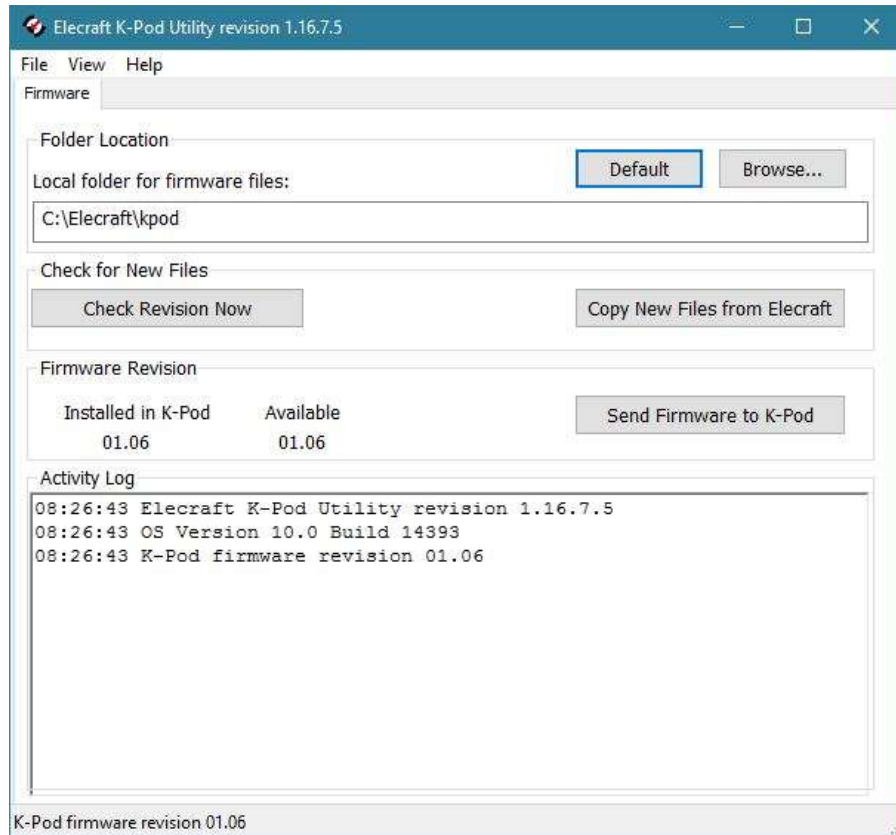

Figure 5-6. K•Pod utility.
7. Start the K•Pod Utility and the *Firmware* page will be displayed showing the current version of the firmware (Figure 5-6).